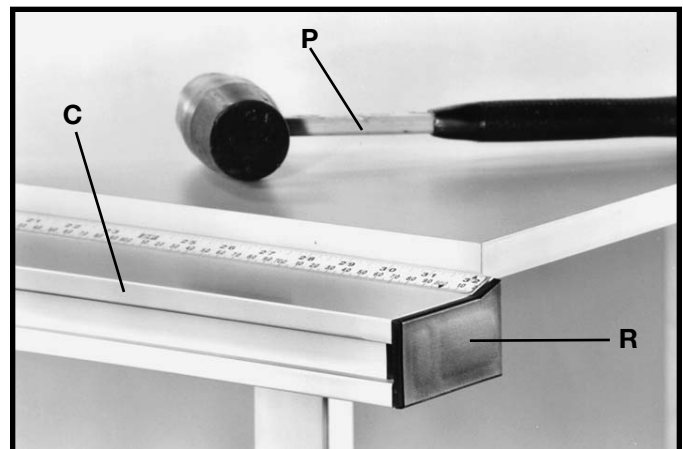

Fig. 66
3. Use a rubber mallet (P) Fig. 66, or a hammer and a block of wood, to gently tap end cap (R) into both ends of the guide rail (C). **NOTE:** To avoid damage to the guide rail, **DO NOT** use a metal hammer directly against the guide rail.